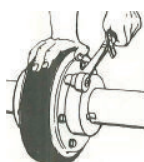
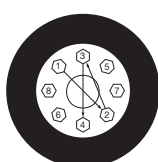

Figure 5
Figure 6
- Hold split of flexible element closed as shown in Figure 5. Tighten (finger tight) one or two screws 180° from split. Using both hands, knead the element pulling it toward the split. Hold split closed and tighten (finger tight) the next two screws farthest from the split. Repeat the procedure on all remaining clamp ring screws. Use a torque wrench to tighten each clamp ring screw in succession to the torque specified in Table 1. Using a torque wrench, recheck all clamp ring screw torque values before coupling operation.
- Optional Procedure: Hold split of flexible element closed as shown in Figure 5. Tighten (finger tight) one or two screws 180° from split. Using both hands, knead the element pulling it toward the split. Hold split closed and tighten (finger tight) the next two screws in a star or cross pattern as shown in Figure 6. Repeat the procedure on all remaining clamp ring screws. Use a torque wrench to tighten each screw to the torque specified in Table 1. Using a torque wrench, re-check all clamp ring screw torque values before coupling operation.